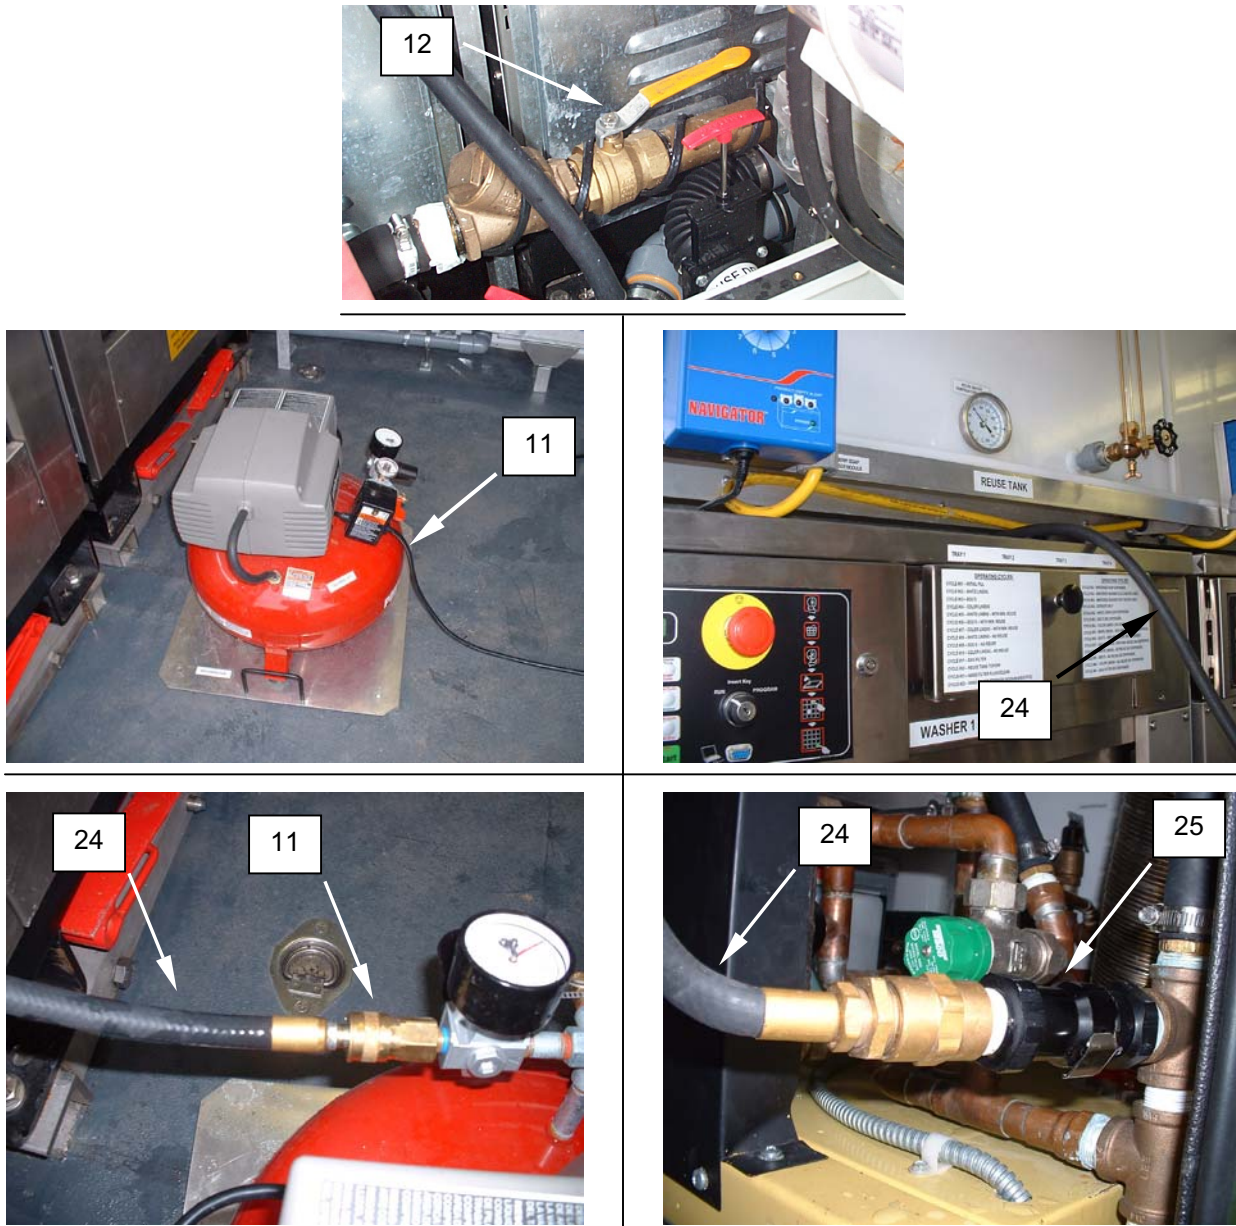

Figure 8. Purge Automatic Soap Dispenser.
9. Close water shutoff valve V-57 (**Figure 8, Item 12**).
10. Connect one end of air compressor hose (**Figure 8, Item 24**) to air compressor (**Figure 8, Item 11**) and the other end to the air purge connector (**Figure 8, Item 25**). Slide hose over the top of washer 1.